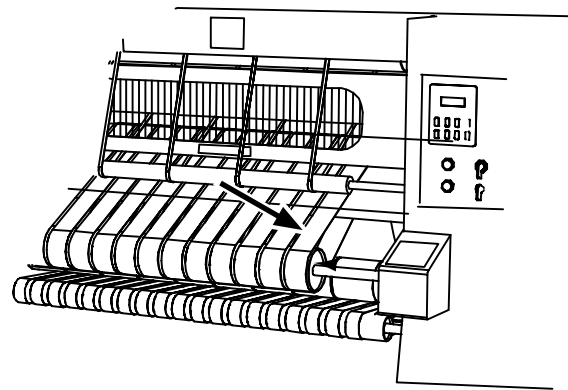

Figure 7-19: Measure the ironer feed ribbon speed.
6. Repeat Steps 4 and 5 with the feed ribbon drive roll (Figure 7-19).
13. Repeat Steps 11 and 12 with the feed ribbon drive roll (Figure 7-19).